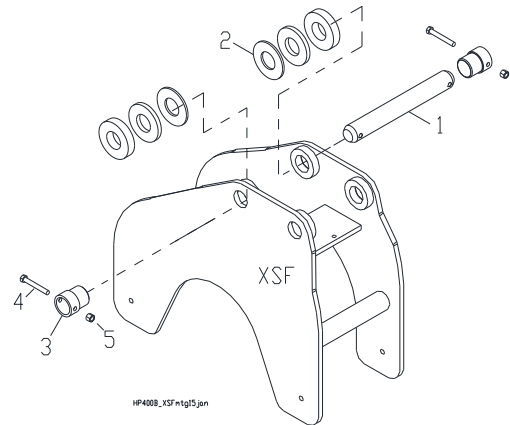

Fig. 6-2 XSF Top Frame and XSF Mounting Kit
- 'XSF' top frame (Fig. 6-2).
The XSF top frame is available as an option and designed for mounting to small size excavators. Use the supplied mounting kit (Fig. 6-2) to adapt the top frame to the carrier. (**NOTE:** The XSF frame has limited fit-up with quick mounting couplers).